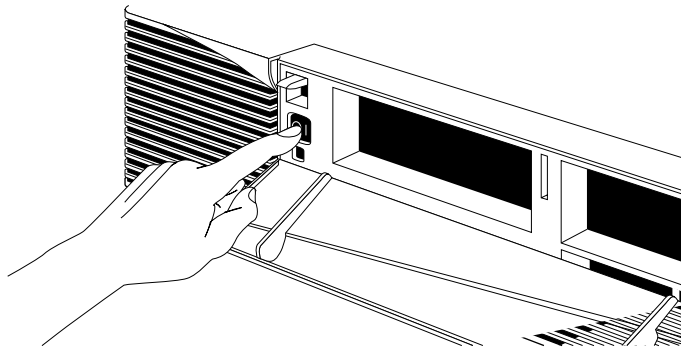

Figure 2-21 Turning On the Indigo² IMPACT Workstation
- Press the power switch to turn on the system, as shown in Figure 2-21.